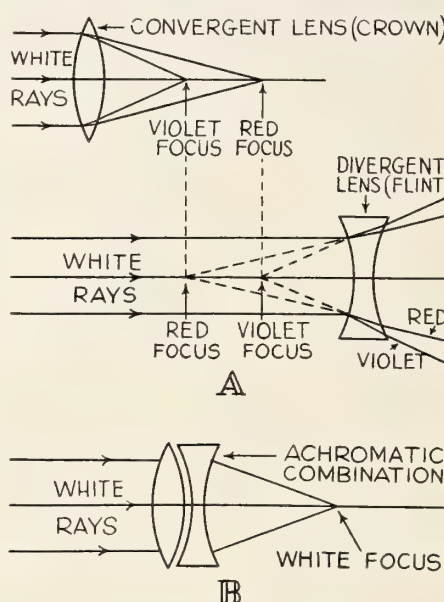

FIGURE 14
Lens correction is an intriguing topic and we will try to sketch the basis for the "achromatic" correction of lenses. Fig. 14 (A) shows how a positive lens disperses the white light into its constituent colors. The extreme foci of the violet and the red are shown. The negative lens, in the middle portion of section A, also disperses the white light to the same